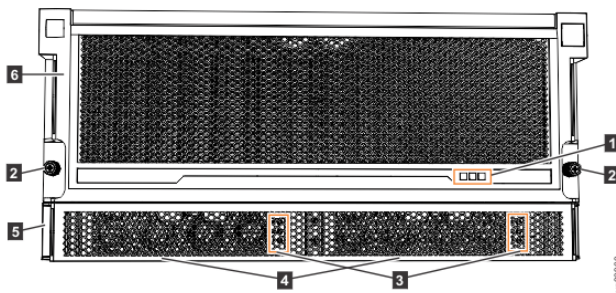

Figure 57. Features on the front of the 5U expansion enclosure
**Important:** Before you connect the power cables to the rear of the enclosure, always check that the expansion enclosure is secured in the rack. If needed, tighten the thumbscrews on the front of the enclosure (2 in Figure 57 on page 57) to ensure that the enclosure drawer does not roll open.
The 5U expansion enclosure has two power supply units (PSUs) that are accessible from the front of the enclosure (4 in Figure 57 on page 57). As the figure also shows, the PSUs are covered by the 1U fascia (5).